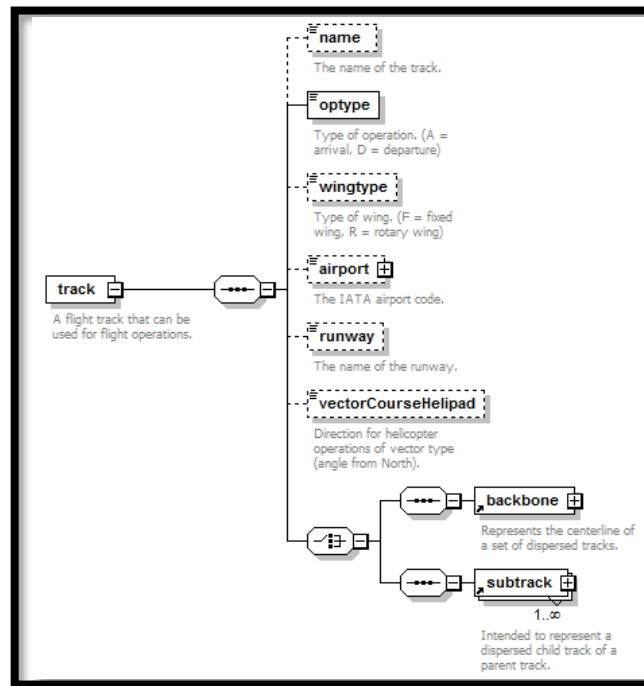

Figure 56. XML element track
9. **AsifXml/trackOpSet/track** (Figure 56):